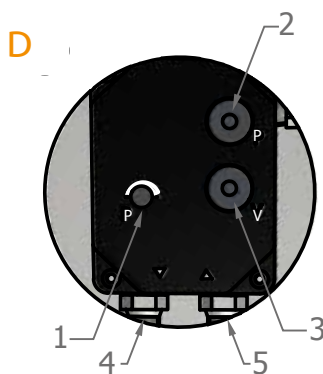

Fig. 10
c) Using a hexagonal Allen wrench no. 4, turn the knob to the left to the end as in Fig. 10, element 1, and then turn the wrench clockwise 1 – 1.5 turn to the right.
NOTE: Watch for proper installation of fuel supply line (Fig. 10 element 5) and fuel return line (Fig. 10 element 4) as per Fig. 10.